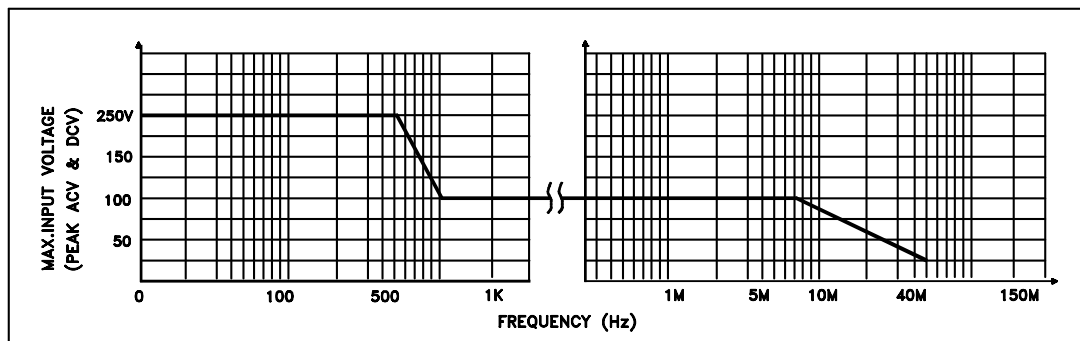

FIG 1. MAX. Input Level. (input A,B)
* Max. INPUT VOLTAGE LEVEL (FIG 1): Same as INPUT A